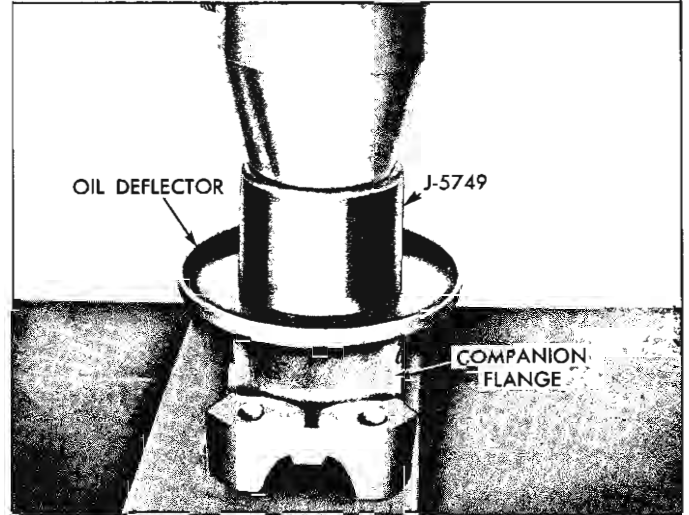

Fig. 10—Installing New Oil Deflector
8. On new flanges or old flanges with damaged deflectors, install new deflector, using Tool J-5749 (fig. 10).